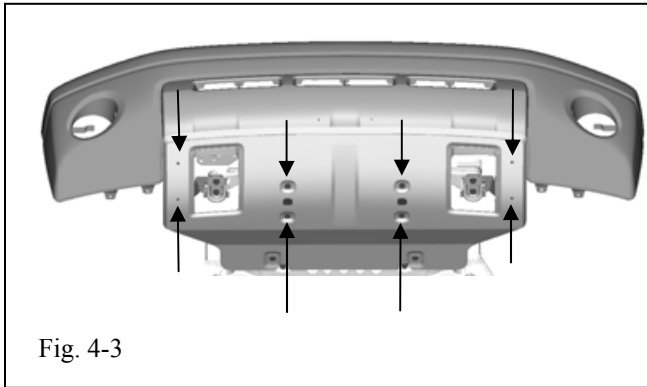

Fig. 4-3
- (d) Align skid plate so that it is visually centered. If necessary, loosen four (4) 8mm stainless bolts & four (4) 6mm hex button head bolts for added adjustment (Fig. 4-3).